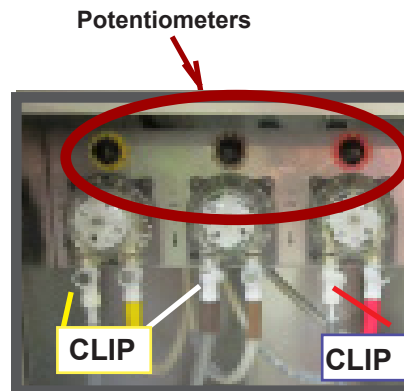

Figure 11-5
2. Open the cabinet below the freezer to install the pump housings. The pump housing with the clear peristaltic tube is to be used on the pump with the brown colored potentiometer dial (see figure 11-5).
- i. Disconnect a hose from the pump by pushing on the metal clip of the connector (see figure 11-5). Remove the pickup tube from the bucket of sanitizer, draining sanitizer back into the bucket. Reconnect hose to pump.
- l. Press water button (7 figure 11-5) to clear line.